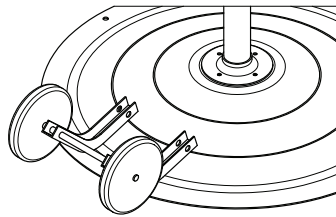

Figure 1 — Bracket Configuration
1. On the end of the axle, firmly place (1) hat nut, securing in place with a rubber mallet. Place (1) washer, (1) wheel, (1) washer, then (1) mounting bracket onto the axle.
2. On the other end of the axle, slide (1) mounting bracket, (1) washer, (1) wheel, then (1) washer.
4. Tip pedestal assembly over by lifting at the motor end, and place circulator head on a flat surface, face down. Remove all inserted discs by loosening (4) 1/4"-20 nuts, as needed.
6. Arrange assembly as shown in Figure 1, with brackets flush to the base. Mark where the (4) holes are to be drilled.